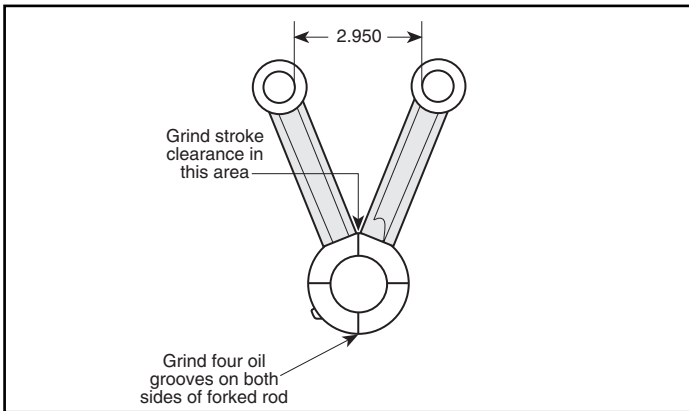

Figure 3
- A. To insure adequate oil on sides of rods and matching thrust surfaces of flywheels, S&S recommends that four grooves be ground on each side of both front and rear connecting rods. **See Figure 3.** Make these grooves .020" to .030" deep and .030" to .040" wide and should be ground 90° from each other. After making grooves, remove all sharp edges and burrs with emery cloth.
- B. With rods assembled, measure distance between rods at closest points in wristpin holes. If measurement exceeds 2.950" as shown in **Figure 3**, grind female rod at points where male rod makes contact to achieve sufficient clearance.